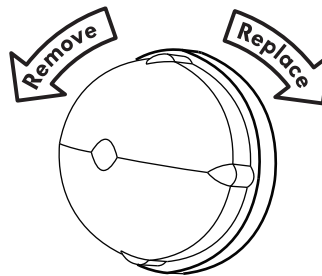
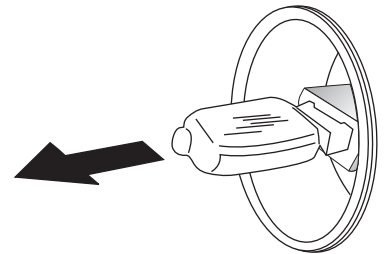

Figure 1 - Glass shield removal
Figure 2 - Pull bulb out.
2. The bulb is covered with a glass shield screwed in place (fig. 1). Replace bulb with 25-watt halogen appliance bulb only (fig. 2). **Please note: do not allow your fingers to touch the new bulb when replacing. This will shorten the life of the new bulb. Use a paper towel to cover the new bulb when installing.**
3. Replace the glass shield (fig.1). **The glass shield must be in place whenever the oven is in use.**
2. Pull the door hinge locks on both left and right door hinges down from the oven frame completely towards the oven door (See Figure 2). A tool such as a small flat-blade screwdriver may be required.
4. Push the door hinge locks up towards and into the oven frame on both left and right oven door hinges (See Figure 2) to the locked position.
1. **Pull the plastic slider to the front** of the glide slots on each side of the drawer cavity (See Figure 2).